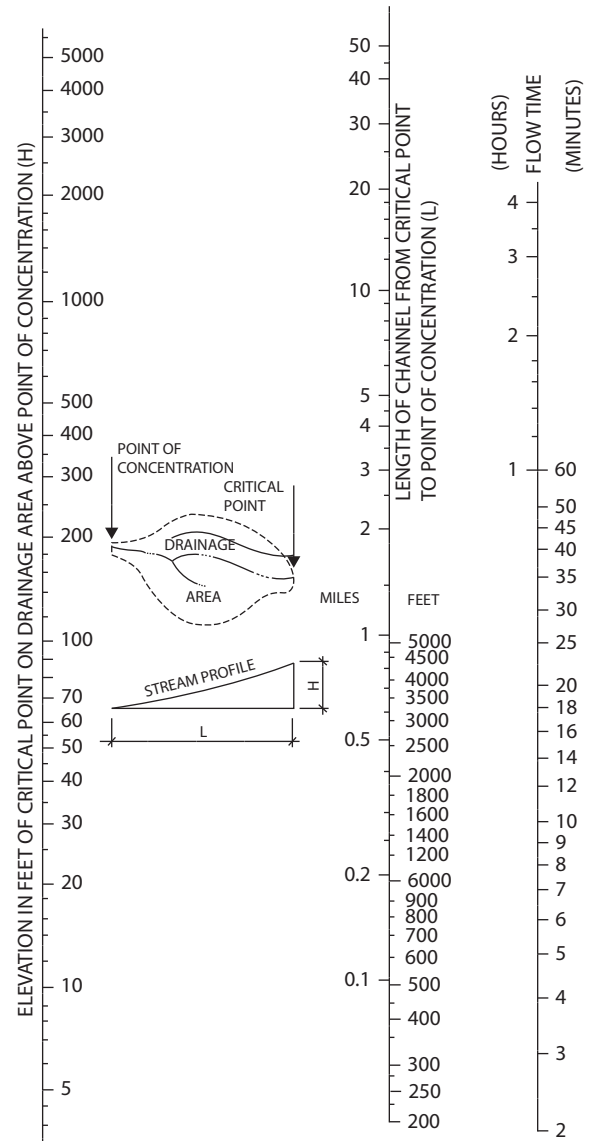

Figure 12.2. Nomograph for channel flow time
- Use the nomograph in Figure 12.2 to obtain the value for this element.